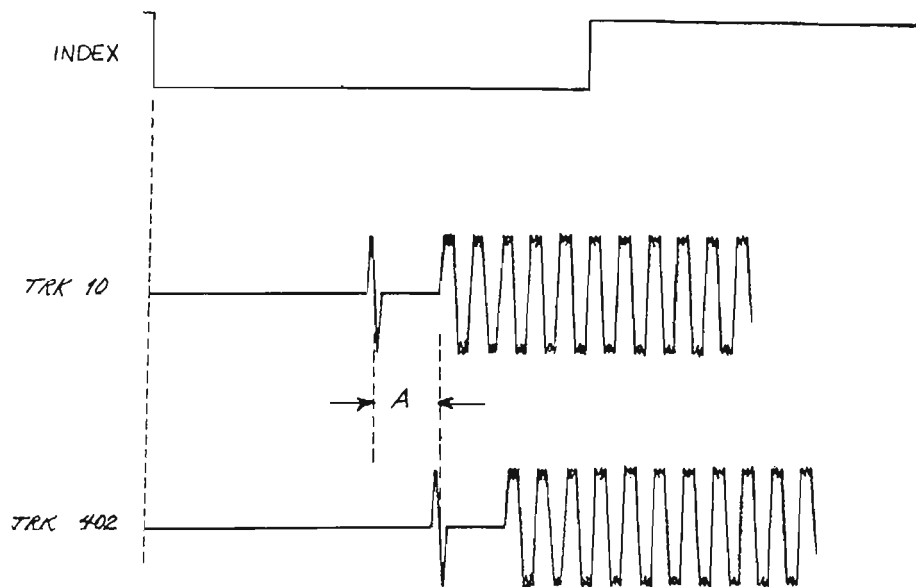

FIGURE 4-16 POINT "A" CANNOT EXCEED 6 USEC
2. Measure the Index-to-Data burst time for one of the upper disk heads at track 10 and then at track 402. Note the time difference in the Index-to-Data burst time, between track 10 and track 402 (see Figure 4-16). The time difference "A" must not exceed 6 μ sec. If the time difference is greater than 6 μ sec perform the following adjustment.